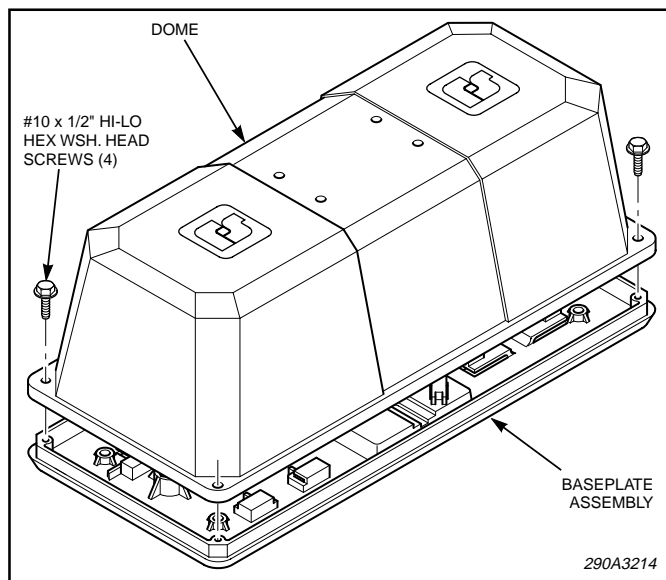

Figure 2.
1. Remove and retain the four screws (one at each corner) which secure the dome to the base and remove the dome (see figure 2).